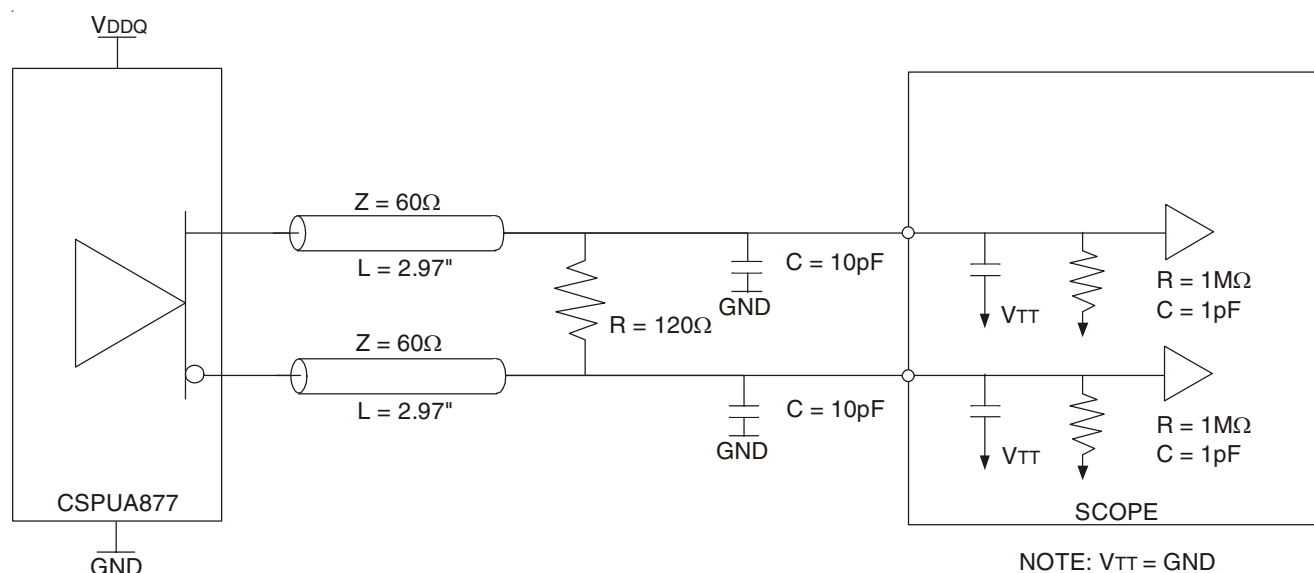

Figure 1: Output Load Test Circuit 1
- There are two different terminations that are used with the above AC tests. The output load shown in figure 1 is used to measure the input and output differential pair cross-voltage only. The output load shown in figure 2 is used to measure all other tests, including input and output slew rates. For consistency, use 50Ω equal length cables with SMA connectors on the test board.
- In the frequency range of 271 - 410MHz, the min and max values for t_{JIT}(PER) and t_∅DYN, and the max value for tsk(O), must not exceed the corresponding min and max values of the 160 - 270MHz range. Also, the sum of the specified values for | t_{JIT}(PER) |, | t_∅DYN |, and tsk(O) must meet the requirement for Σt(SU), and the sum of the specified values for | t_∅DYN | and tsk(O) must meet the requirement for Σt(H).